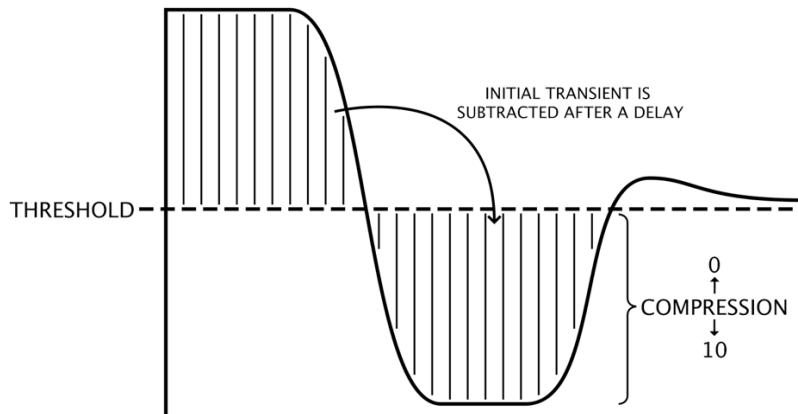

FIGURE 2: CONTOUR COMPRESSION VOLUME ENVELOPE
**CONTOUR:** The Contour control makes the compressor slower and slightly unstable. The volume drop is a brief oscillation or overshoot in the control signal. When a transient goes over the threshold, the compressor tries to turn it down. Contour adds an extra delay so it can't respond right away. During that initial delay it's also storing up the energy coming in. Once it finally starts to compress it releases the stored-up energy and overreacts. One practical way to think of it is that whatever transient information goes over the threshold before the compressor kicks in is then subtracted afterward. This is illustrated in Figure 2 below.